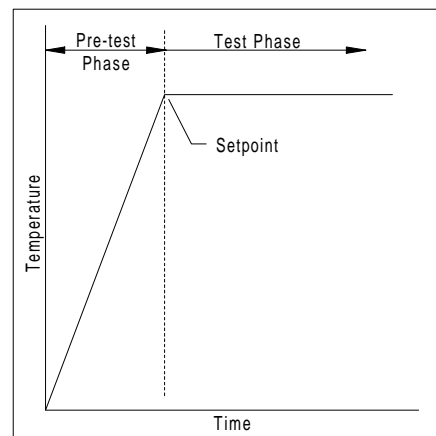
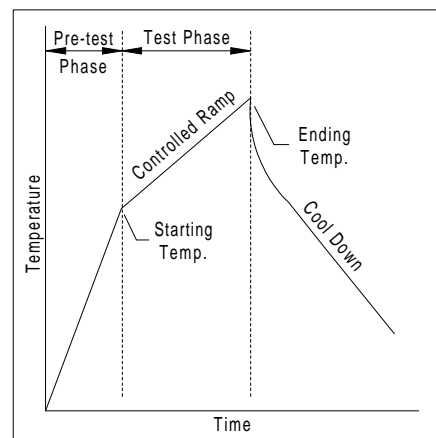

Figure 9
Figure 10
4) The CL400 can perform two types of tests: Constant temperature (isothermal) (Fig. 9) and Ramped temperature (Fig 10). Each profile type has two phases: